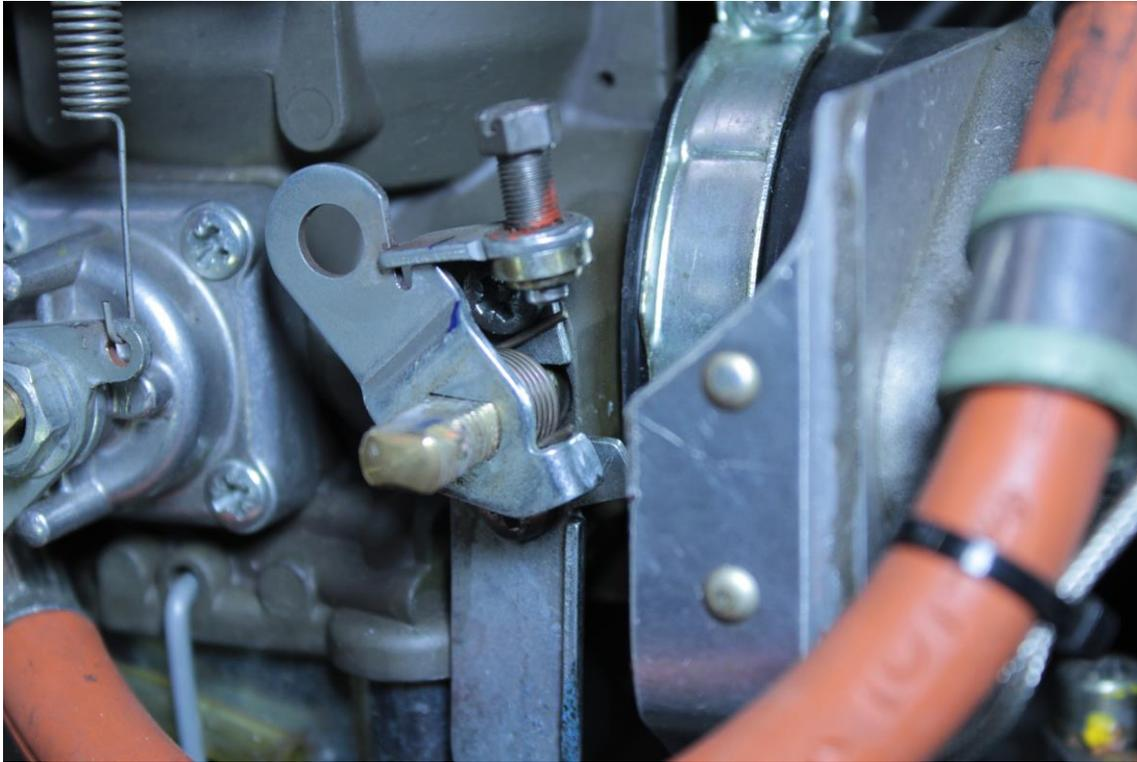

FIGURE 1: SPRING INSTALLATION (THROTTLE ARM NOT INSTALLED)
Step 1: Remove SPRING-00002 as shown in KAI Section 50. See Figure 1 for reference.